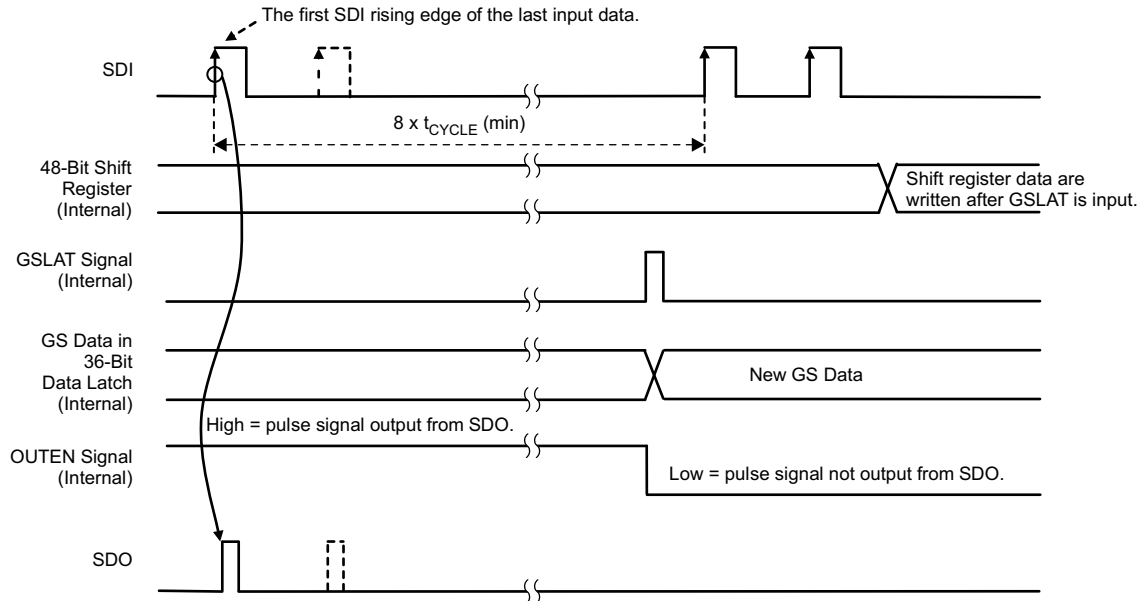

Figure 17. GS Data Latch Sequence (GSLAT)
A GS data latch (GSLAT) sequence must be input after the 48-bit data for all cascaded devices are written. When SDI is held low for the data latch hold time (t_{HL}), the 48-bit shift register data in all devices are copied to the GS data latch in each device. Furthermore, PWM control starts with the new GS data at the same time. Figure 17 shows the GSLAT timing.
7. The number of total bits is $48 \times N$. After all data are written, execute a GSLAT sequence as described in Figure 17 in order to copy the 36-bit LSBs in the 48-bit shift register to the 36-bit GS data latch in each device; PWM control starts with the written GS data at the same time.